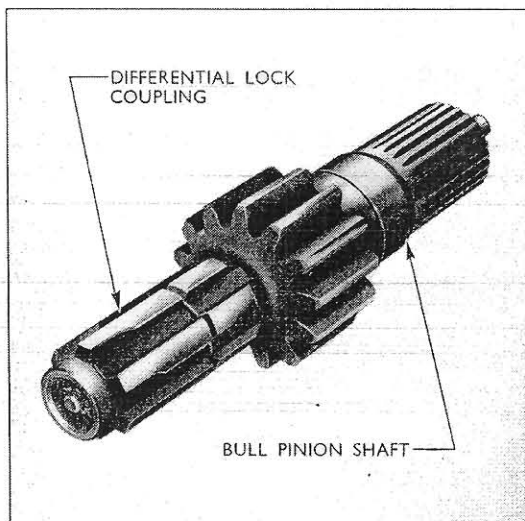

Fig. 13
1. Align the splines of the differential lock coupling with the splines on the inner end of the bull pinion shaft as illustrated in Fig. 13. Insert the bull pinion shaft and differential lock assembly into the bull pinion housing so that the differential lock coupling and the end of the bull pinion shaft engage with the right-hand differential side-gear.